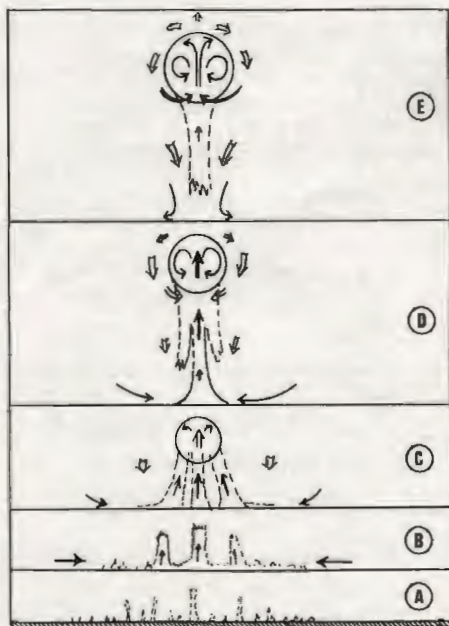

Fig 1
Fig 1 shows some of the stages in transforming a flat disc into a tall thermal. The disc cannot lift off vertically like a flying saucer; the form drag would be enormous. What seems to happen is that little tendrils of air start rising like steam from a hot bath (A). One can sometimes see these misty thermals after a forest has been drenched by rain. When the sun comes out again the forest sometimes sends off tendrils of mistiness which rise very slowly. They show no sign of changing into bubbles before the mist evapo-